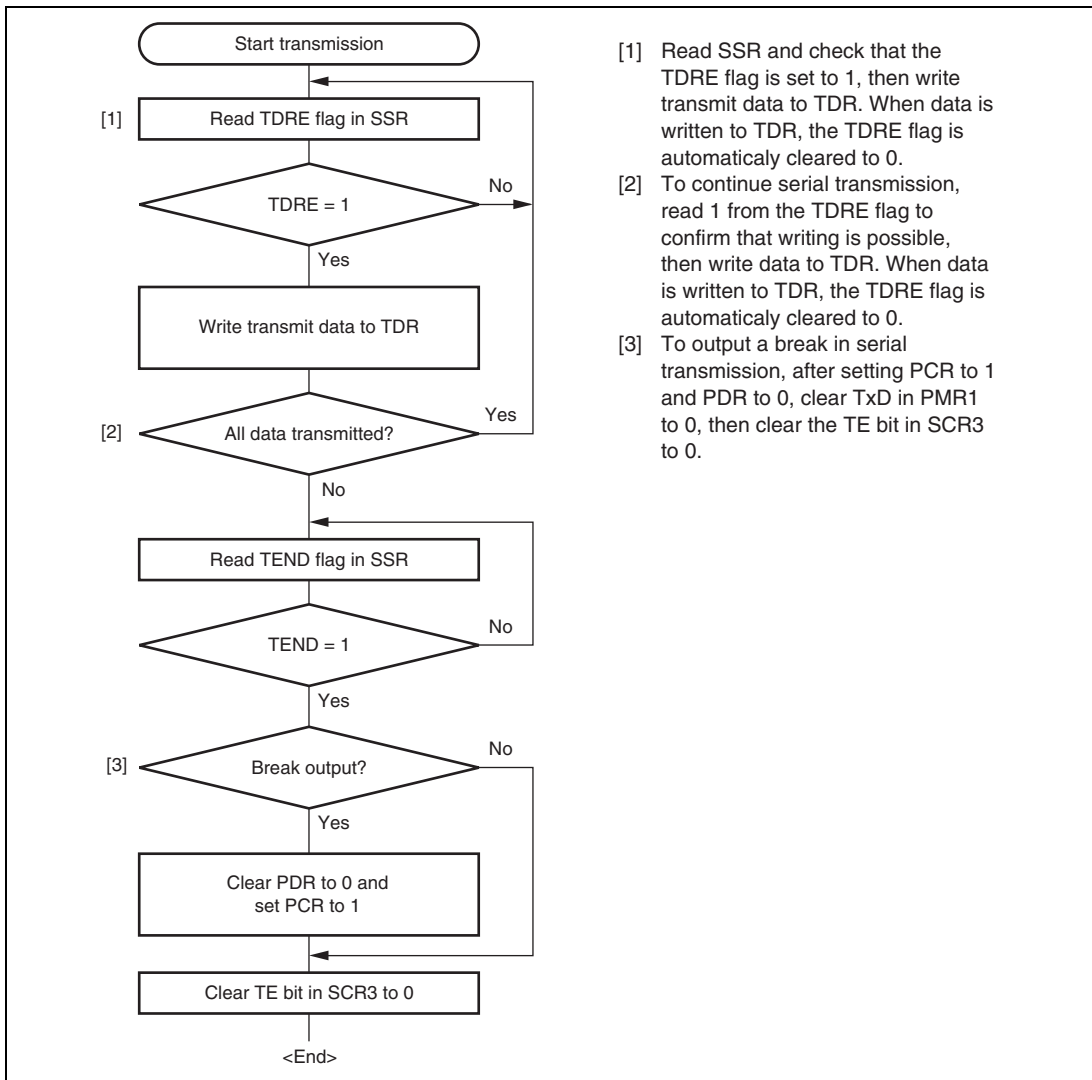

Figure 13.6 Sample Serial Transmission Flowchart (Asynchronous Mode)
6. Figure 13.6 shows a sample flowchart for transmission in asynchronous mode.